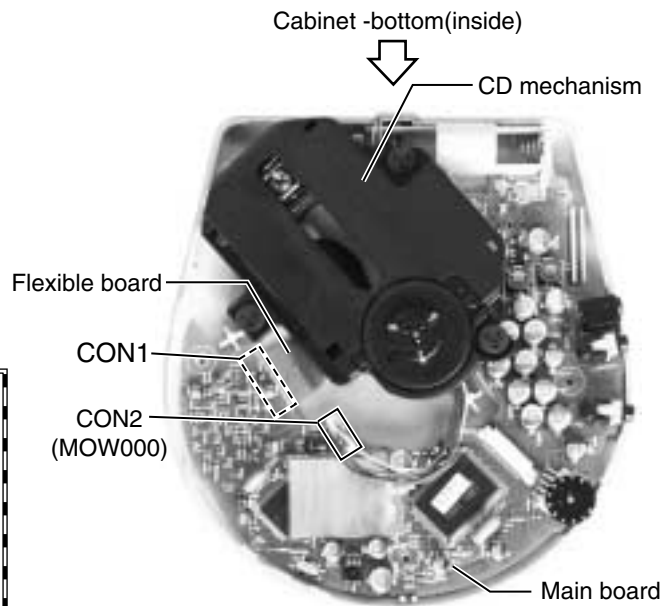

Fig.5
■ Removing the CD mechanism (See Fig.5)